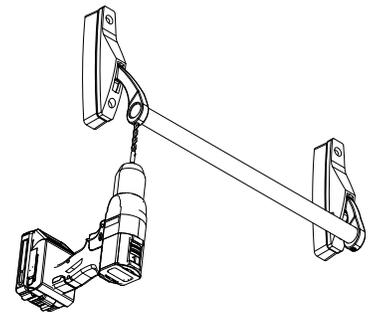

Figure 9
3. Drill 3/16" hole thru one side of bar using hole in arm to locate. (Figure 9)